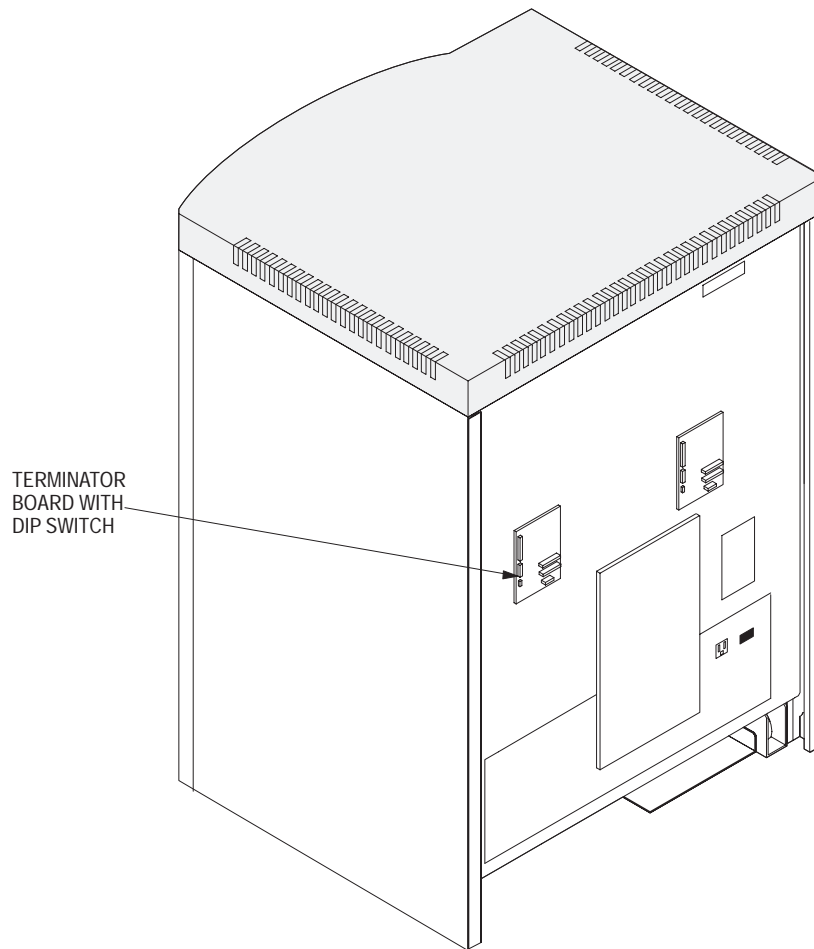

Figure 4-12. Terminator Boards (Rear View).
2. On the terminator board, shown in Figure 4-12, check the 8-position dip switch at location U1. Make sure that all switches are set to ON.